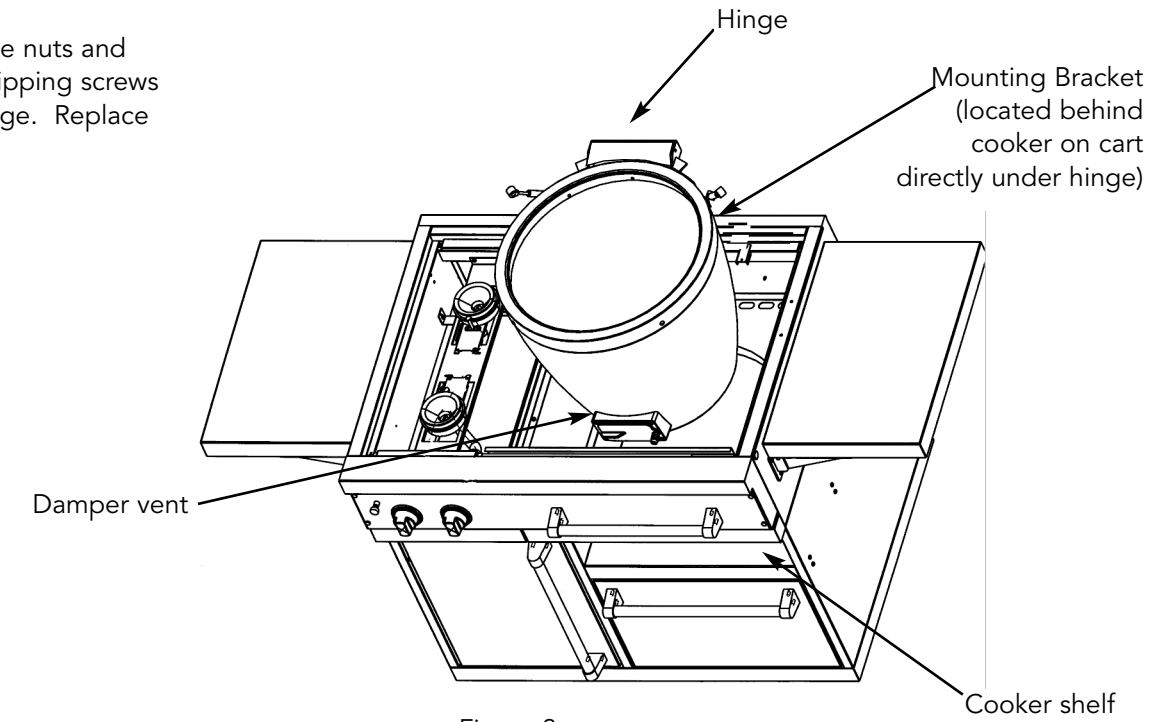

Figure 3
5. With a minimum of two people, place the cooker on the cooker shelf located in the cart. Also, make sure the cooker is placed on the mounting bracket located on the cart directly under the hinge. The hinge and the inside damper vent should be used for hand holds. (See Figure 3).